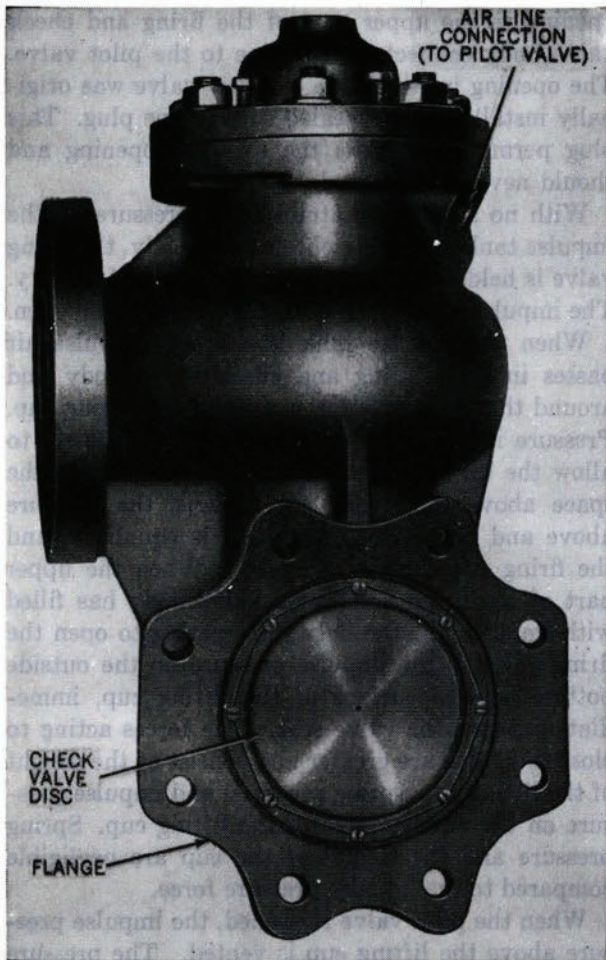

Figure 150—Firing and Check Valve Body—Inboard Side.
**Check Valve.** This valve, figure 150, presents full impulse tank pressure from being transmitted to the tube when the firing valve is first opened, and sea water from entering the firing system when the torpedo tube is flooded. To prevent damage to the torpedo afterbody from impulse air pressure when the firing valve is first opened, an air cushion is required between the firing valve and the afterbody. After firing, the check valve prevents water from passing the firing valve and backing up into the impulse air line, and also keeps sea water from